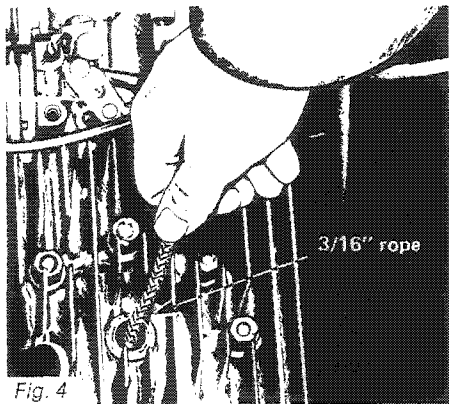

Fig. 4
- Accede by the spark plug hole and pack the P.T.O. cylinder with  $\frac{3}{16}$ " dia. rope (See Fig. 4).